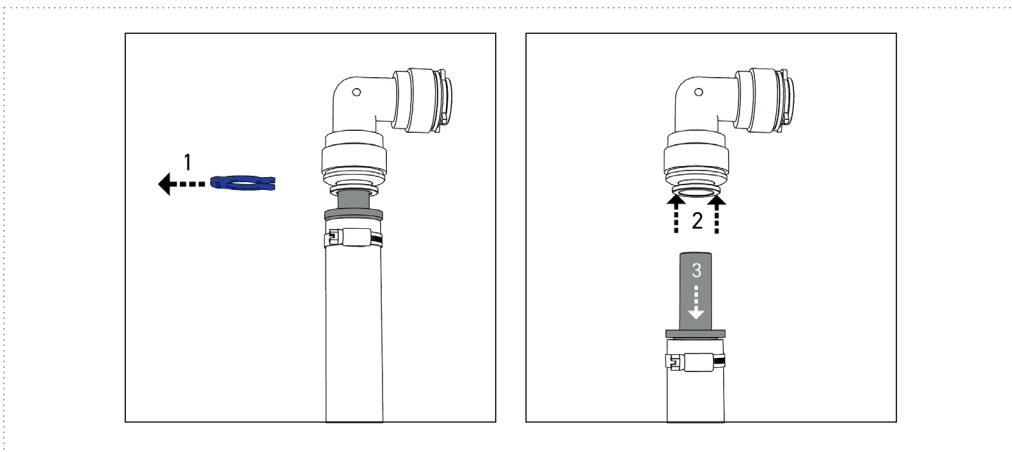

Figure 25
- Remove the water lines from the water connections of the UV unit (Figure 25). First remove the safety ring (1). Push back the retaining element with your fingers or using a release aid (e.g., safety ring) and hold it (2). The inserted pipe/hose can now be removed (3).